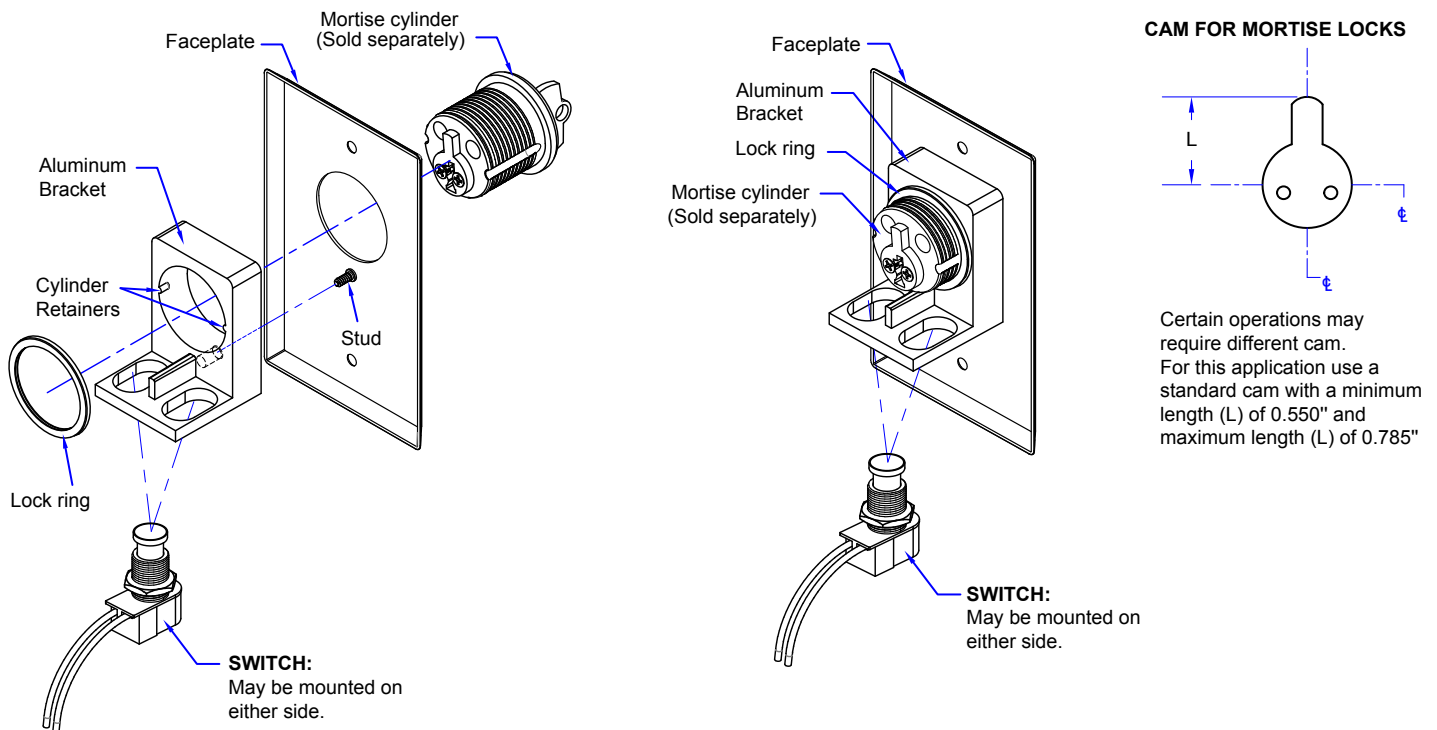

Figure 5.5 1205/14 Rear View Installation Details
1. Fit the aluminum bracket against the stud on the back of the face plate. Insert the mortise cylinder through the front of the faceplate while aligning the grooves on the sides of the cylinder with the corresponding "Retainers" on the aluminum bracket (See Figure 5.5). Some cylinders may appear not to fit. If the grooves on the side of the cylinder are irregular and do not align with the retainers on the bracket, use a metal file to file down the retainers slightly.